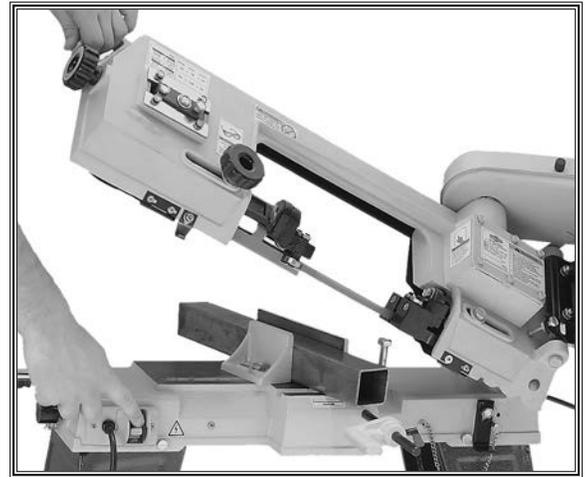

Figure 19. Proper bandsaw horizontal starting position.
- Allow the blade reach full speed before engaging the workpiece. Never start a cut with the blade in contact with the workpiece (see **Figure 19**).